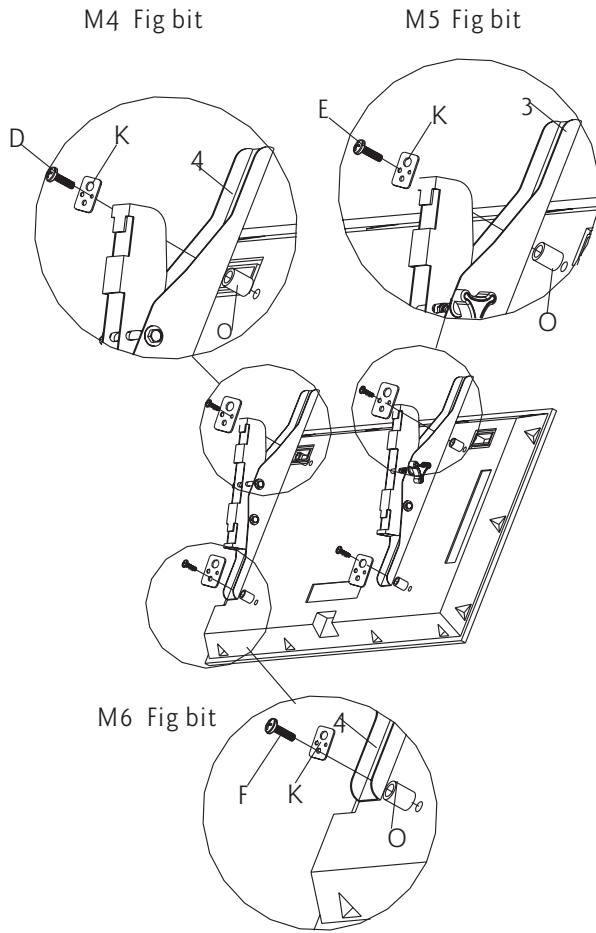

Fig 1b
2. Some displays have curved backs with recessed mounting lands (Fig. a). It will require the use of spacer. For this display, install a 9/16" spacer (O) between display and the bracket. As shown in Fig 1b.